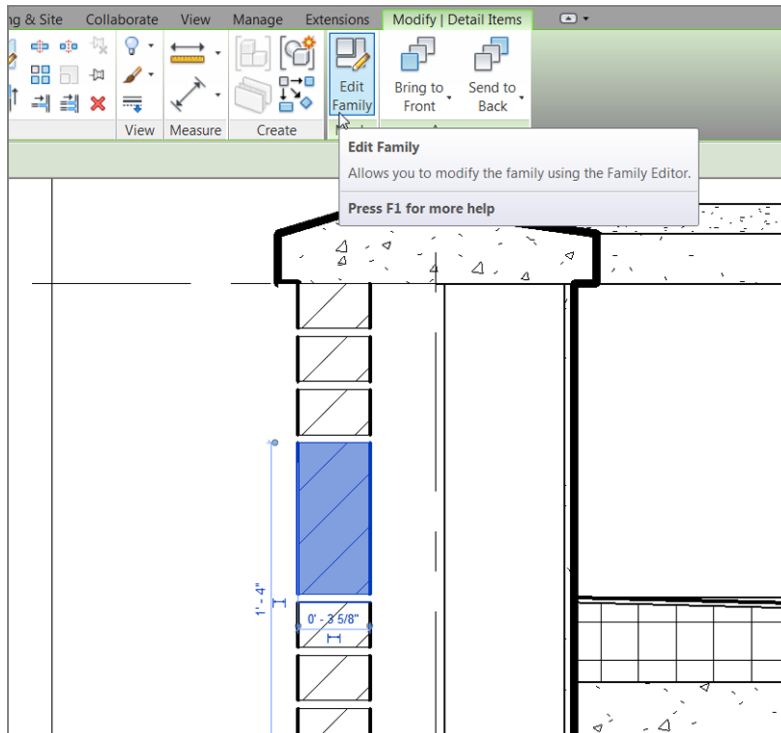

FIGURE 12.14: Open the family for editing after selecting the detail component.
3. On the Modify | Detail Items tab, click the Edit Family button, as shown in Figure 12.14.